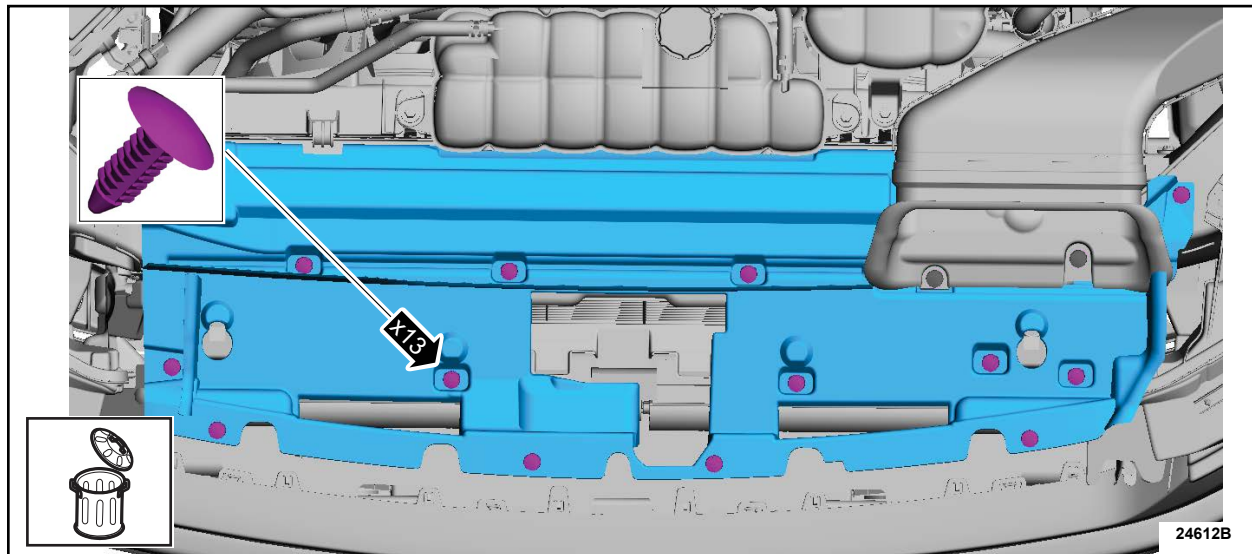

FIGURE 3
3. Remove and discard the upper radiator air deflector push pins. See Figure 3.